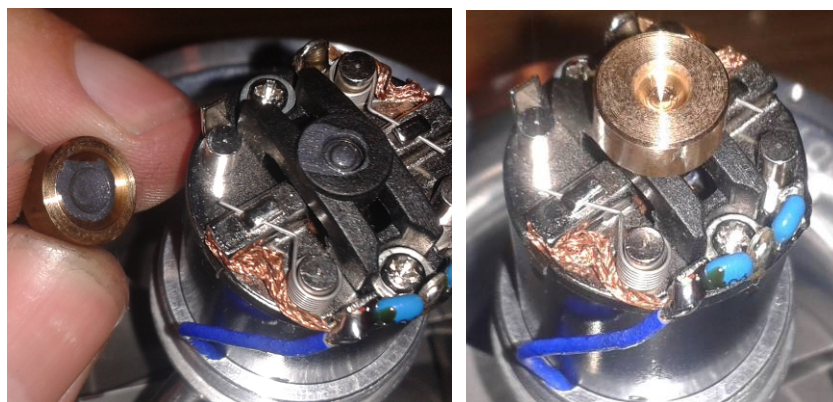

Figure 11 – correct washer location is with the shallower end towards electric motor
- 4) Proceed with the assembly in the reverse order as the disassembly. Position the brass washer correctly as seen in the Figure 11.